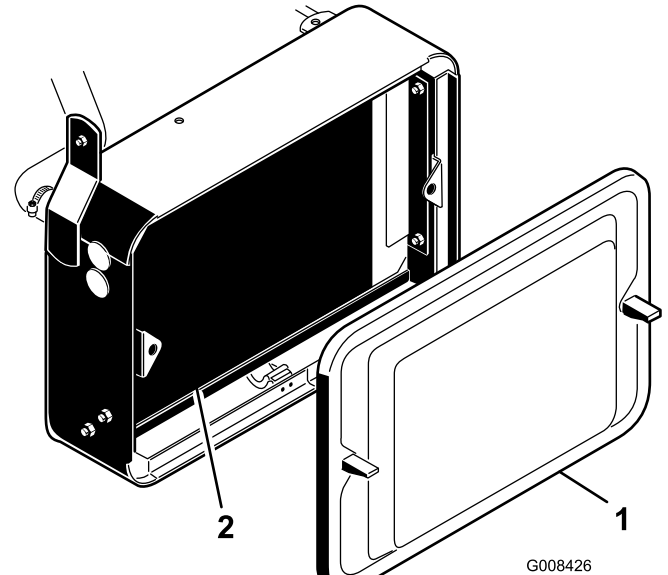

Figure 52
1. Remove the radiator screen (Figure 52).